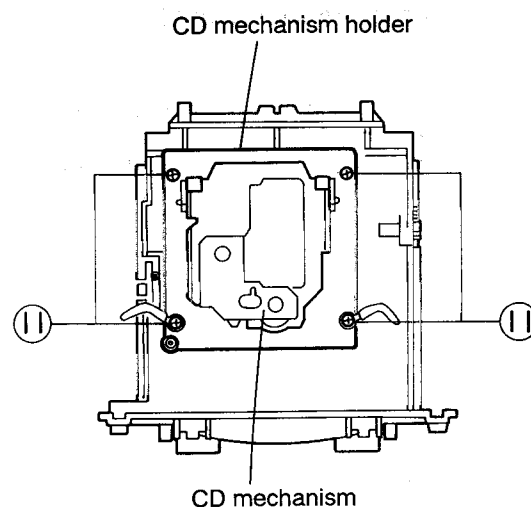

Fig. 5-11
■ Removing the CD Mechanism Assembly (See Fig. 5-11)
1. Remove the four screws (11) retaining the CD mechanism holder.